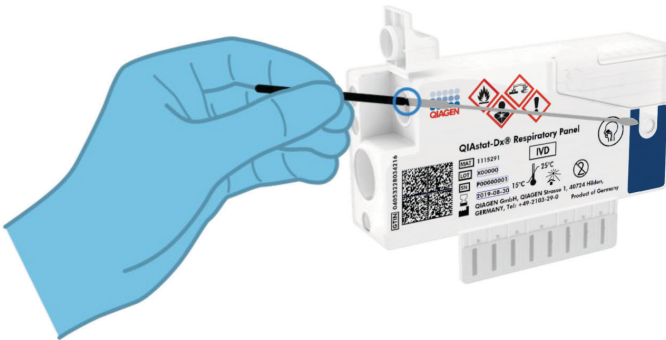

Figure 8. Inserting swab into the QIAstat-Dx Respiratory Panel Cartridge.
5. Insert the swab into the QIAstat-Dx Respiratory Panel Cartridge until the breakpoint is aligned with the access opening (i.e., the swab will go no further) (Figure 8).